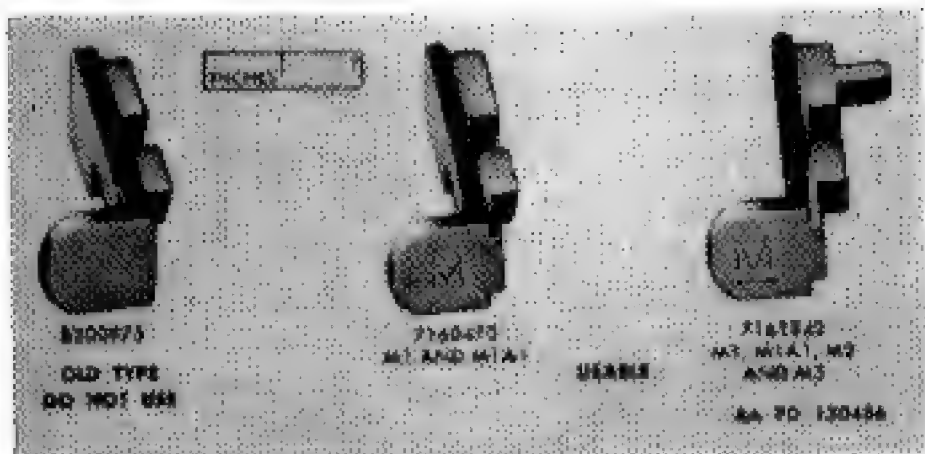

Figure 54. Magazine catches.
(1) Check to assure that magazine catch 7161842 (marked with "M" underlined) or 7160470 (marked "M" not underlined) is used. Although they are interchangeable, stocks of catch 7161842 should be conserved for carbines M2 and M3. Modification Work Order ORD B28-W-4 prescribes replacing the old type catch with the type (Fig. 54).
(2) Test the function of the magazine catch. Check catch for free movement in guideway, deformation, worn or burred retainer plunger recess, and worn or burred magazine retention lugs. See that projection on end of catch 7161842 is neither bent nor burred. Check magazine catch spring plunger for retention on spring, wear, and burrs, and check spring for functioning, deformation, and set. See table II, for standards on magazine catch spring. When magazine catch